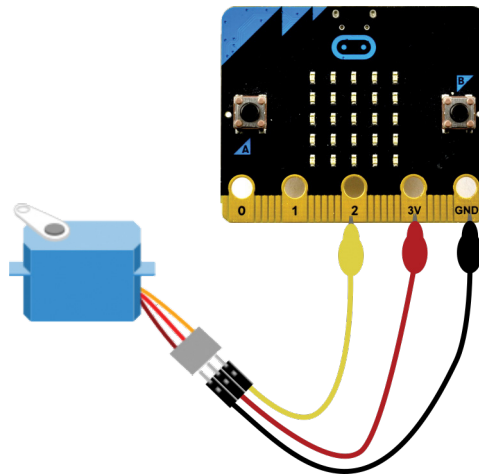

Figure 6-2: A servomotor connected to a micro:bit
3. Connect your micro:bit to the servomotor using the alligator clip, as shown in Figure 6-2.